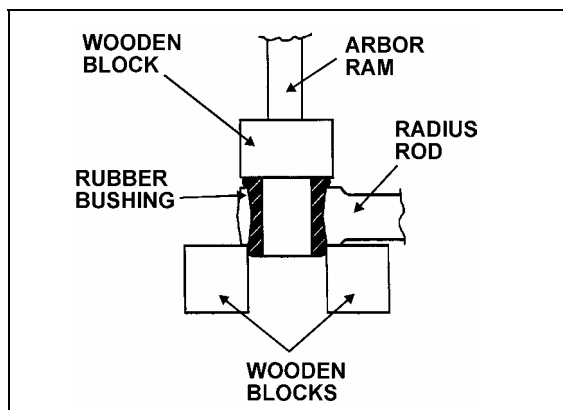

FIGURE 8: RADIUS ROD BUSHING INSTALLATION 16012
- Safely support the radius rod, and place new bushing on top of the radius rod end (Fig. 8).